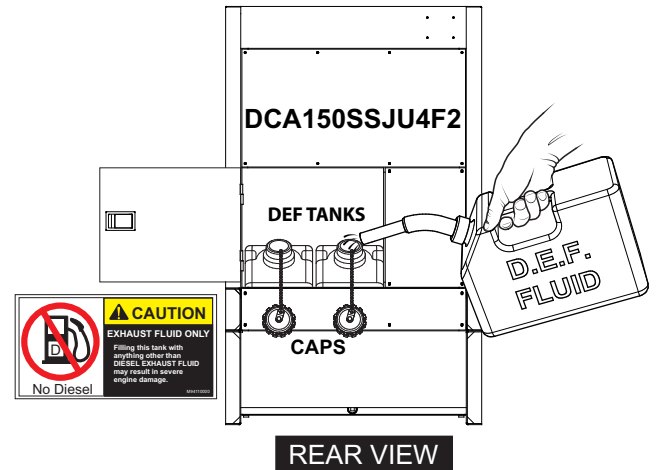

Figure 42. DEF Tank Filling (DCA150SSJU4F2)
- For DCA150SSJU4F2 generators, open the enclosure **rear door**, remove the filler cap from both DEF tanks and fill with DEF fluid (Figure 42).